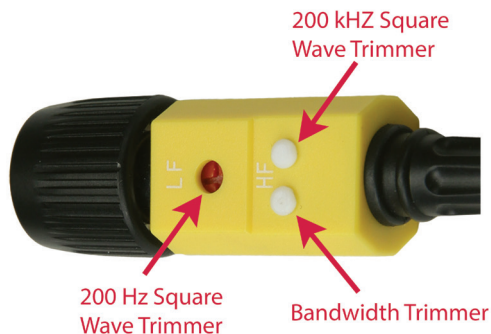
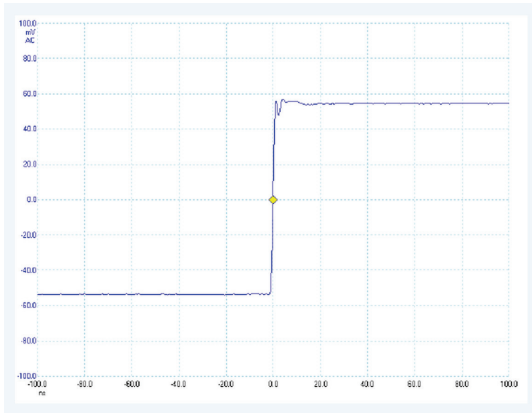

Figure 2: Frequency Compensation Trimmer
Figure 4: Good Compensation
3. Turn the 200 Hz Trimmer (Figure 2) using the Trimmer Tool, making a flat topped square wave (Figure 4).
6. Turn the 200 kHz Trimmer for a flat topped square wave (Figures 2 & 4).
7. Turn the Bandwidth Trimmer for tuning the probe's bandwidth (Figure 2).
Figure 4 shows a perfectly compensated probe.